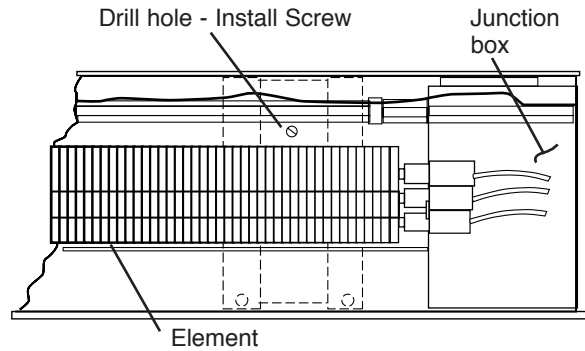

Figure 3
9. Position the heater onto the stand-off brackets. Drill a hole through the back housing of the heater into each bracket. (See Figure 3.).